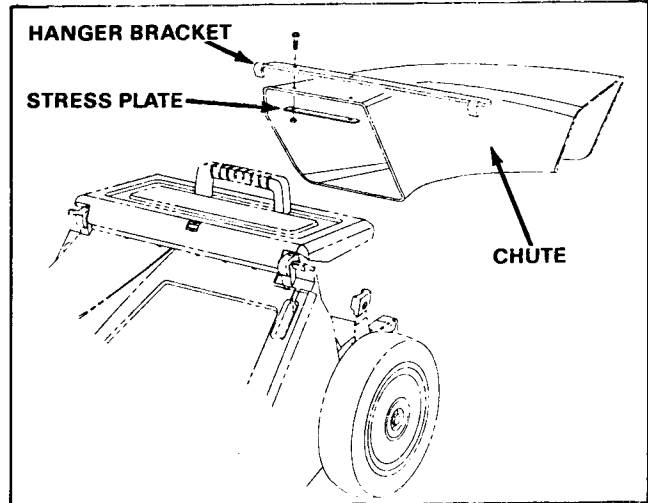

Figure 75
1. Place the chute hanger bracket and stress plate into position as shown in Figure 75. Secure with two washer head capscrews and nylon locknuts. See Figure 75.